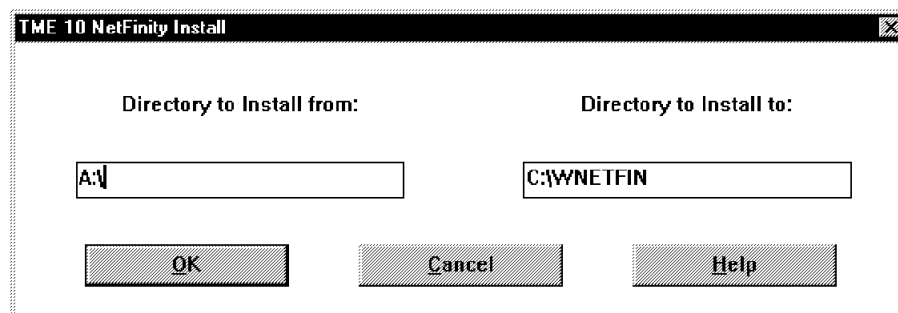

Figure 81. Drive Selection for TME 10 NetFinity Installation
3. A window will pop up indicating a default drive and directory where you will install the code. You can override the default by typing in a new location (see Figure 81). The installation can be from a diskette, CD or a LAN drive. The same applies to the target drive. You should also define the subdirectory where the code will be installed.